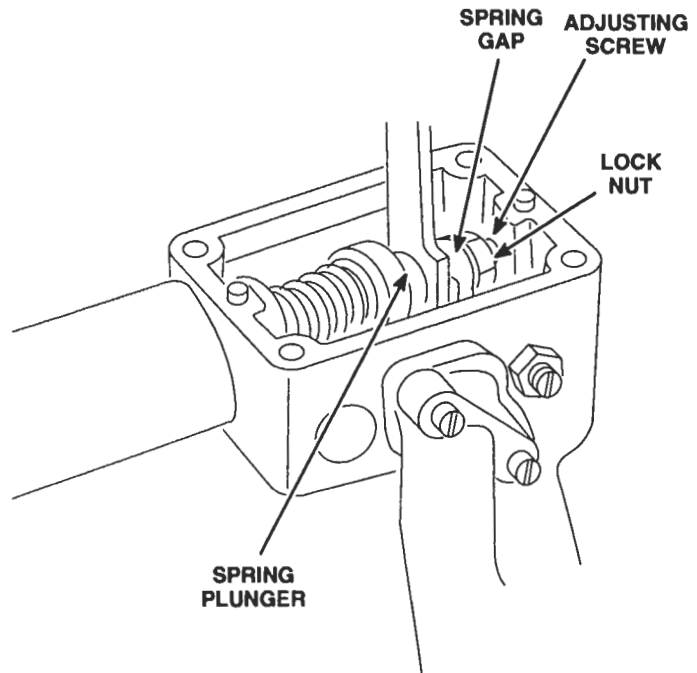

Figure 2. Adjusting Gap (Single-Weight Governor) Using Tool J 5407
6. Check the gap between the low-speed spring cap and the high-speed spring plunger with gage J 5407 (.170 inch) (Figure 2.) Be sure the external starting aid screw (if used) is backed out far enough to make it ineffective when making this adjustment.